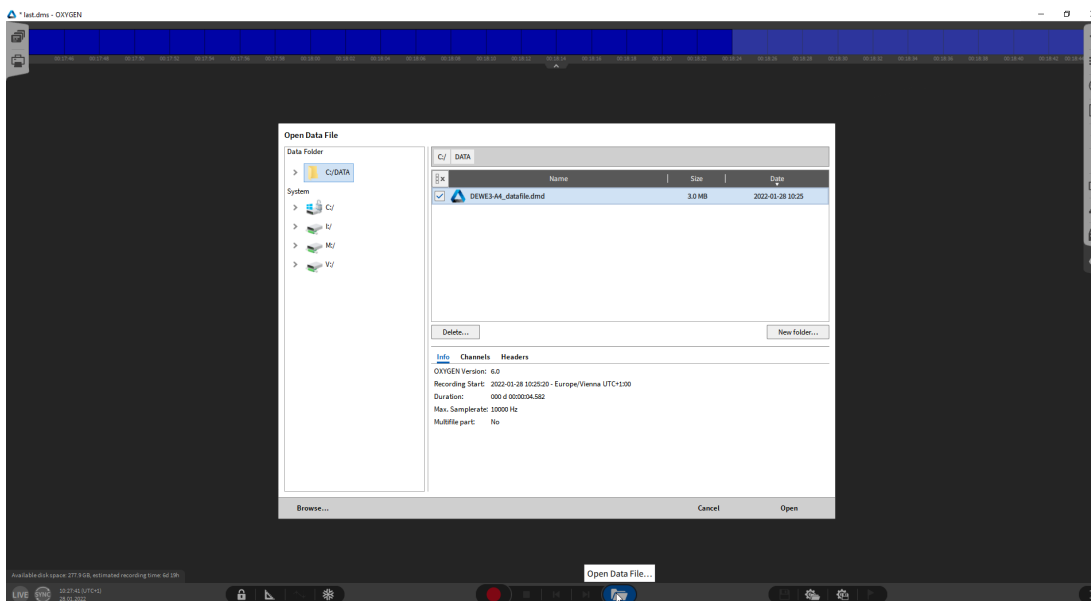

Fig. 31: Opening data file
1. Click on the file button, and select the corresponding file (see Fig. 31).